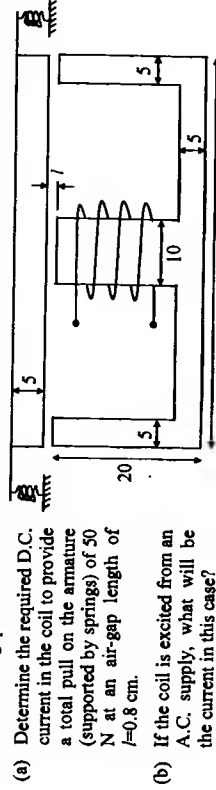

Fig. 1
- 20 1. The dimensions of electromagnet shown in Fig. 1 are in centimetre (cm) and the depth of the core and the armature is 5 cm. The coil has 1000 turns. Assuming that the permeability of the magnetic material is very large relative to air ($\mu_r = 4\pi \times 10^{-7} \, \text{H/m}$) and neglecting the leakage flux and the fringing of flux at the air-gaps: